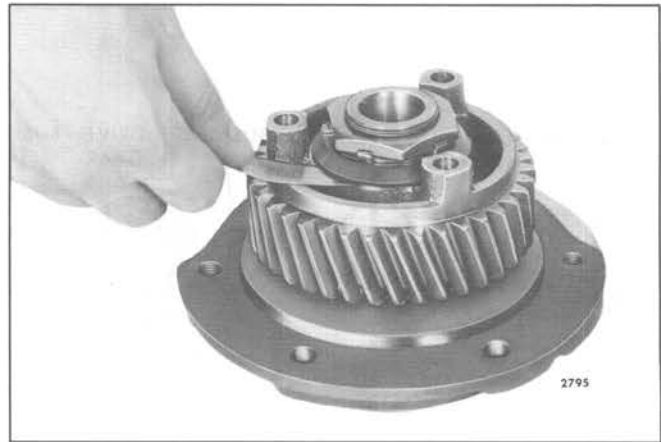

Fig. 8 - Checking Clearance Between Blower Drive Gear Support Thrust Washer and Thrust Bearing
7. Check the clearance between the blower drive gear support thrust washer and the blower drive gear thrust bearing (Fig. 8). The clearance should be .003" to .017" with new parts and should not exceed .019" between worn parts.
7. Check the clearance between the blower drive gear support thrust washer and the blower drive gear thrust bearing (Fig. 8). The clearance should be .005" to .010" with new parts and should not exceed .012" between worn parts.